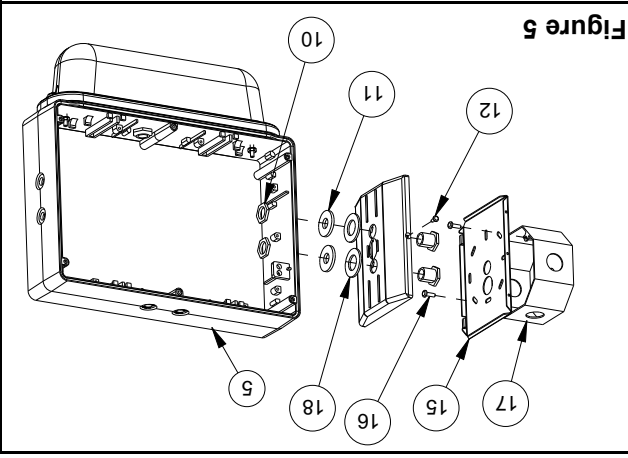
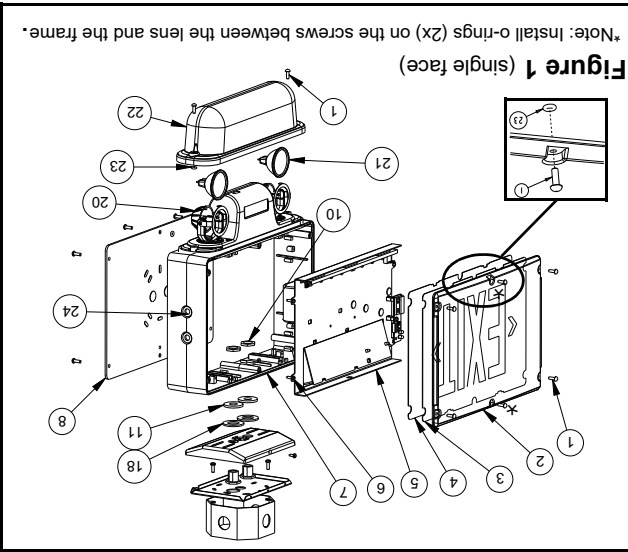

Figure 5
Figure 1 (single face)
- h. Determine which holes in the exit frame will be used for mounting (see fig. 1, 2 & 5). Support frame with two blocks of wood, maximum one inch apart. Strike knockouts with a hammer and screwdriver. Clear holes of burrs to allow proper assembly of nipple/wire assembly. Note: end mount installation is weatherproof but not certified for Nema 4X (see fig. 5).
- i. Secure canopy to the frame by threading the provided nipple/wire assembly through the canopy and frame. Make sure the gasket washers are between the canopy and frame, and that the locknuts(11) are inside the exit sign (see fig. 5).
- Remove proper knockouts in canopy backplate for desired mounting position. **For Nexus wired option**, install the liquidtight™ fitting, provided with the unit. For side mount, use the knockout located on top of the unit. For ceiling mount, use the knockout located on side of the frame (see fig. 5).
- Make sure the securement screw is accessible (see fig. 1 & 2 part # 13). Use existing screws in junction box to secure canopy backplate to the junction box.